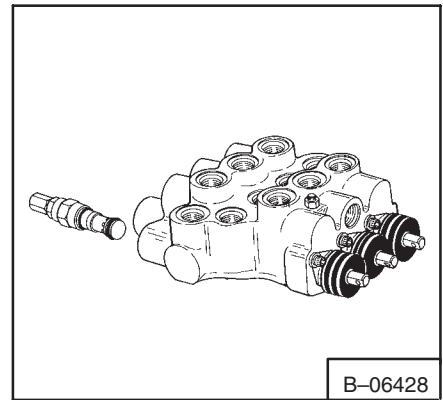

Fig. 2-22a Main Relief Valve
3. Remove the cap from the relief valve (Fig. 2-22a).
1. Remove the relief valve from the control valve (Fig. 2-22a).